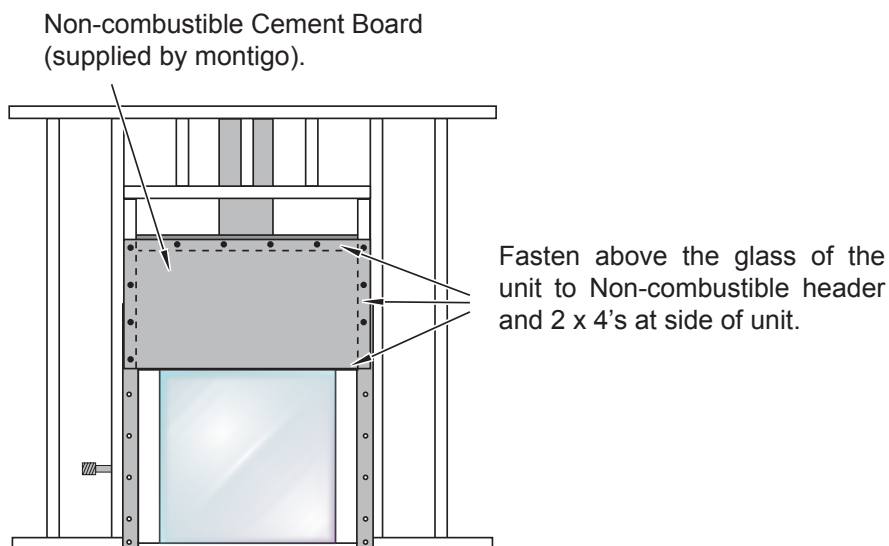

Figure 3. Non-combustible Cement Board the Fireplace, (supplied by Montigo).
**Step 1.** As shown in Figure 3; Use Non combustible Cement board, supplied by Montigo, screw to Non-combustible Header and 2 x 4's